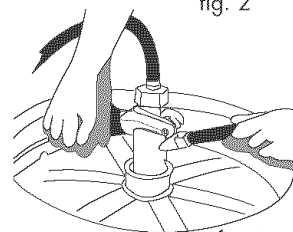

fig. 3
3. It is very important that the black rubber washer be installed inside the wing nut before connecting the beer line to the keg coupler. Remove the black rubber protective cap located on top of the keg coupler and screw the wing nut with the rubber washer onto the keg coupler. Hand-tighten firmly. (see fig. 3)